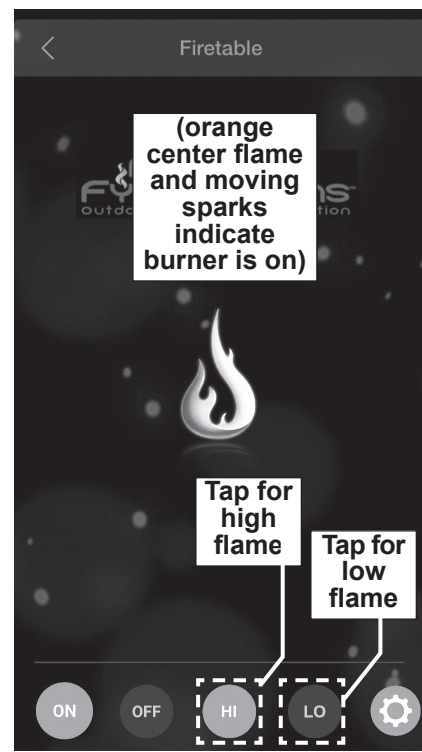

Fig. 29-1 Remote Operation:
1. Locate the **POWER** button on the control panel, and push it (see Fig. 29-1). The light will illuminate indicating the system is on and ready.
2. From within the app, proceed to the Devices screen and select your unit. The remote screen will appear. See Fig. 29-1.
3. Tap the **ON** icon found on the bottom left of your remote screen (see Fig. 29-1).
The flame height can be adjusted via the remote app. Tap the **HI (high)** button to increase the flame height. Tap the **LO (low)** button to decrease the flame height. See Fig. 29-1. (LO setting available after 60 seconds.)
To shut down the burner (system will remain on), tap the **OFF** icon found on the bottom left of your remote screen. The screen will no longer display the orange center flame and moving sparks. See Fig. 29-1. The **AUX CONTROL** button indicator light will also go off.
To shut down the burner and system (total shutdown), or if the remote app is unavailable, push the **POWER** button on the control panel. See Fig. 29-1. The **POWER** and **AUX CONTROL** button indicator lights will go off. (Fully power off when covering or when not in use.)